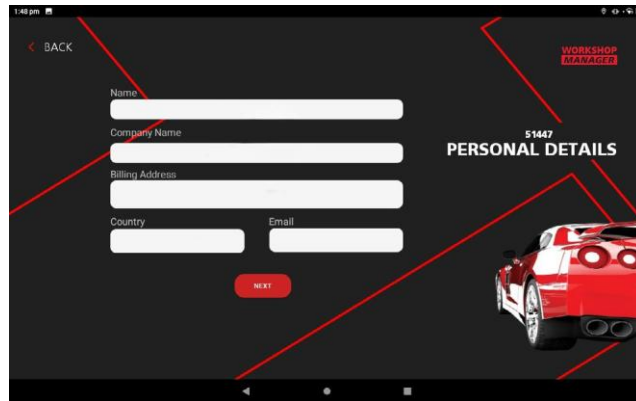

Figure 16
Step 2: Enter your Personal Details and Press Next (Figure 16).